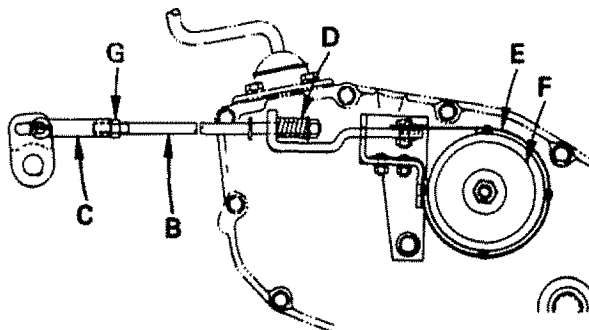

FIGURE 52
- Loosen Jam Nut (G) on Brake Rod (B) at Clevis (C) (Fig. 52). If you find it difficult to loosen Jam Nut (G), remove Cover Plate in L.H. Frame Rail.
- Rotate Brake Rod (B) counterclockwise, (⤿) turning Brake Rod out of Clevis (C) four to six turns.
- Shut engine off. Rotate Brake Rod (B) clockwise by hand, turning Brake Rod into Clevis (C), until tight. Tighten Jam Nut (G) on Brake Rod (B) at Clevis (C) (Fig. 52).
- Reinstall Lift Cover Plate and four (4) Mounting Screws. If Cover Plate was removed in step b it should be replaced.